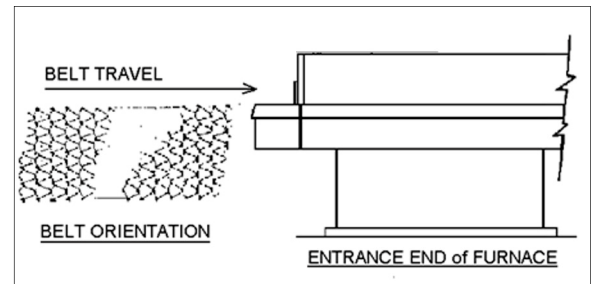

Figure 7-24 Belt Orientation
1. Position the new belt at the furnace entrance. Orient belt as shown in Figure 7-24.